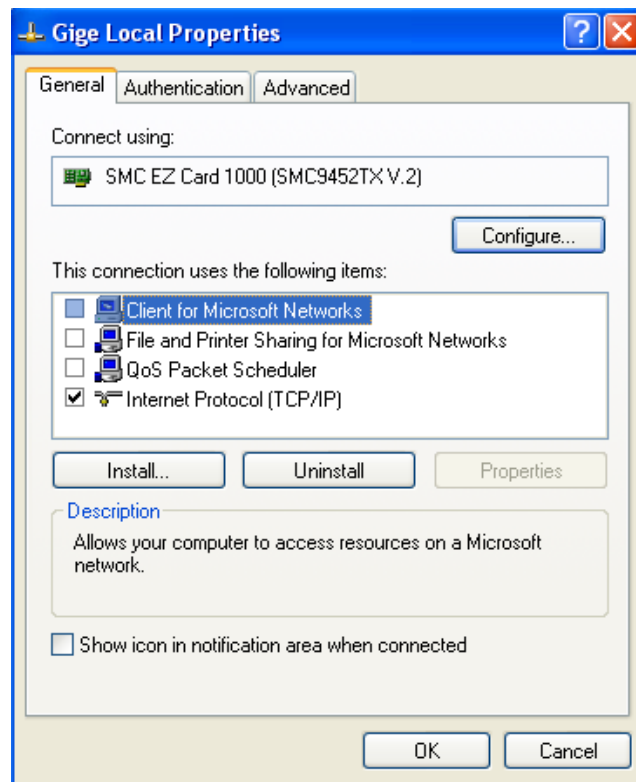
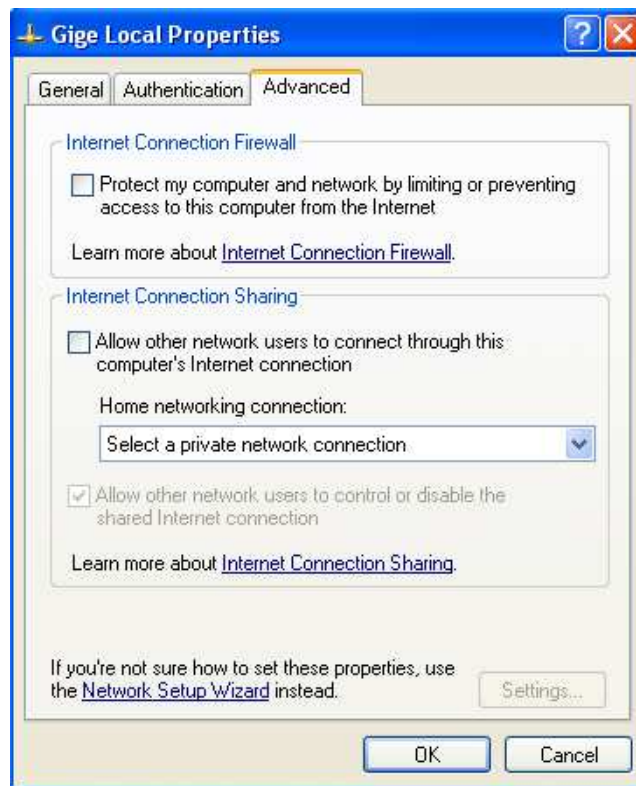

Figure 4. Network card main properties window.
Figure 6. Turn off Firewall.
- Once the driver is installed, open the Network Connections Dialog as follows: From the Windows desktop select *start*, then select **Control Panel**, then double click on the **Network Connections** icon. Double click the relevant network card listed or right-click the relevant network card and select **Properties**. This will open the properties window for your network card. See Figure 4.
- Return to the Gige Local Properties window as in Figure 4. Select the Advanced tab as in Figure 6 and disable the Firewall for this device. Click **OK** to save changes.